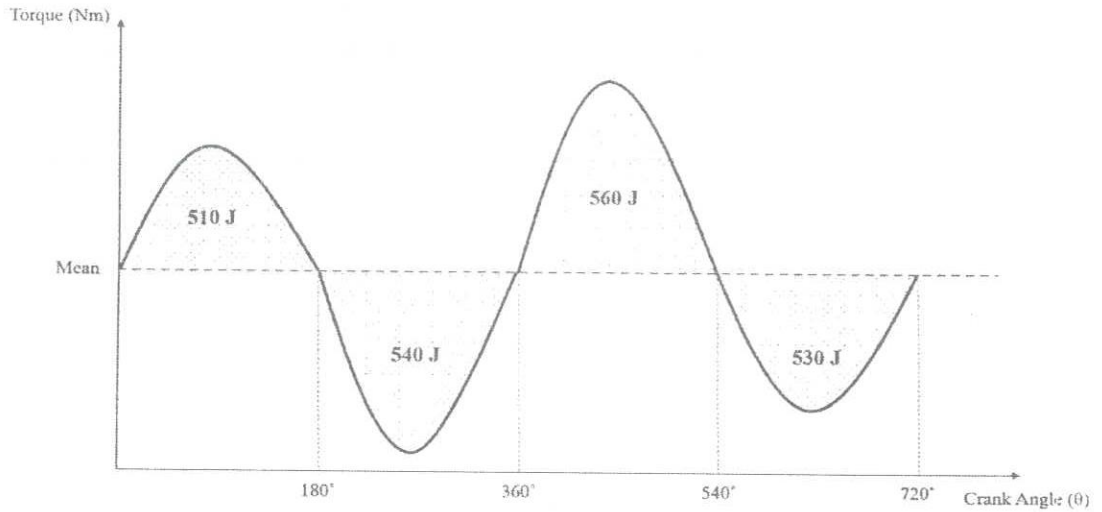

Figure Q4(c): Torque-crank angle diagram
- c) The Torque–Crank Angle diagram for a crank piston engine is given in Figure Q4(c). The work done during each step is indicated in the diagram, and the crank shaft needs to maintain the speed within the range 540 - 550 rev/ min.